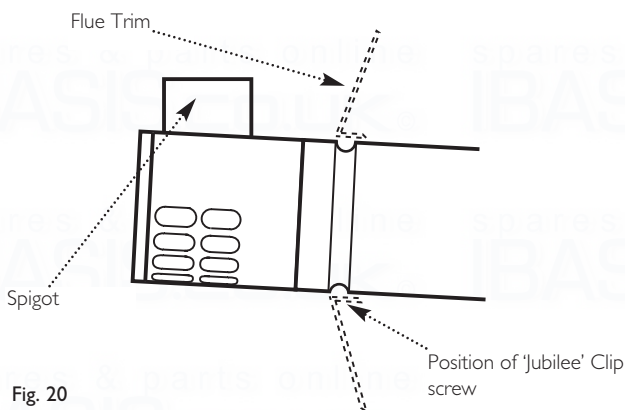

Fig. 20
5. If required, the flexible flue trim should be fitted prior to this as it cannot be fitted after. Use the large 'Jubilee' clip to secure the trim to the flue (See Fig. 20, trim shown dotted), with the screw part of the clip at the bottom.
2. The two sections can be adjusted to provide a length between 315mm and 500mm (Fig. 20) when measured from the flue elbow (there is 50mm engagement into the elbow).